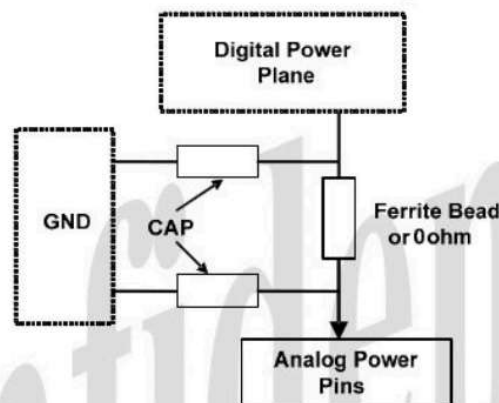

Figure 23. Power Plane
Any analog circuitry on the same plane as the digital power will experience an energy fluctuation due to the fast switching time of digital components. This could improperly bias transistors, and cause the circuits to malfunction. A low-pass filter combination of a ferrite bead and capacitors should be used to provide a clean, filtered power plane for analog consideration (Figure 23). Keep power traces to the RTL8211C(L) as short and wide as possible and make good use of vias.